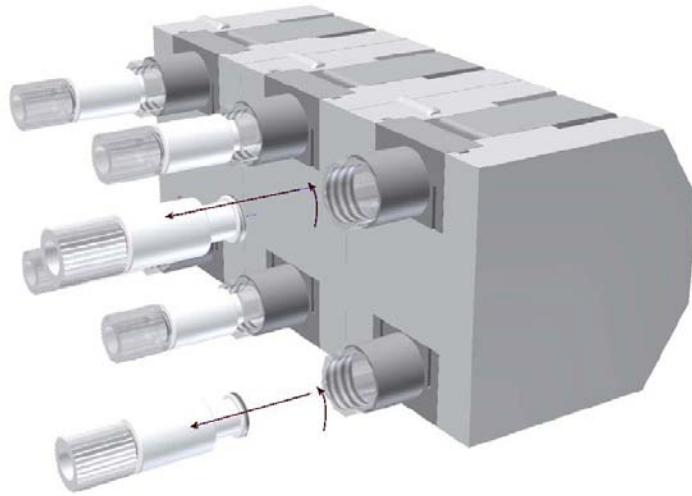

Figure 2-1
2. Disconnect the reagent tubing luer fitting from the pump (figure 2-1).